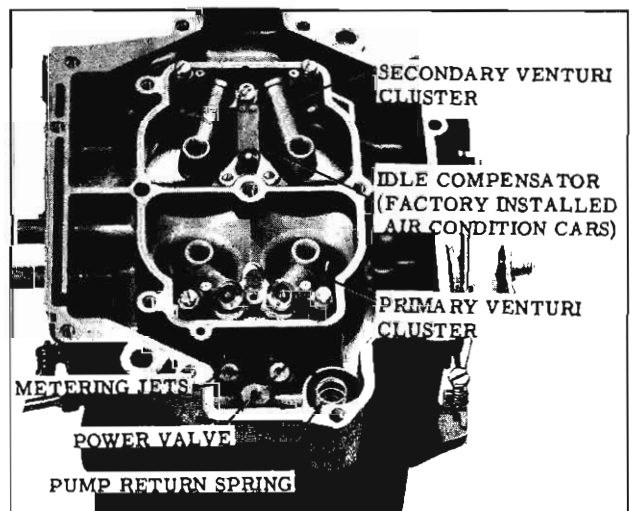

Fig. 4-14 Float Bowl Assembly
7. Install the power valve and gasket, and the two primary main metering jets. (Fig. 4-14)